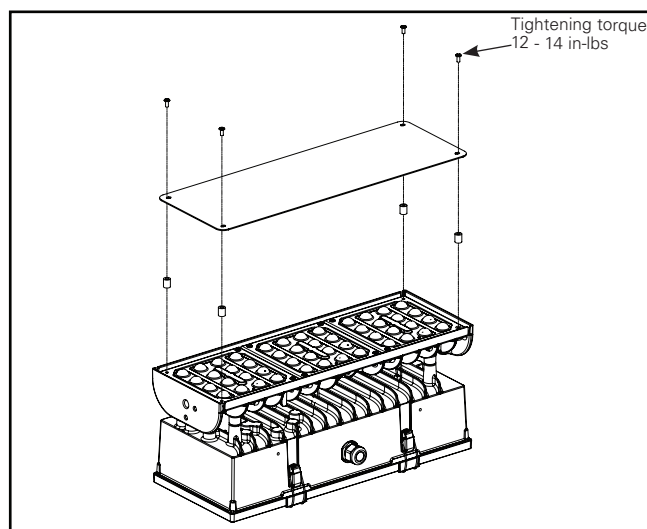

Figure 14.
Vandal Shield (Figure 14)
1. Loosen and remove the existing (4) 8-32 screws on the face of the fixture (Fig 14).
2. Align (4) 7/8" long spacers with existing holes (4).
3. Use (4) 8-32 x 1-1/2" screws to secure vandal shield on top of fixture.